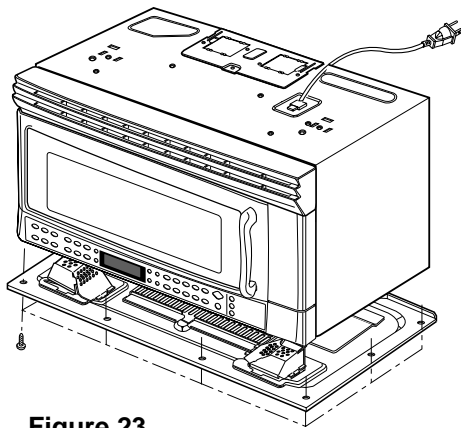
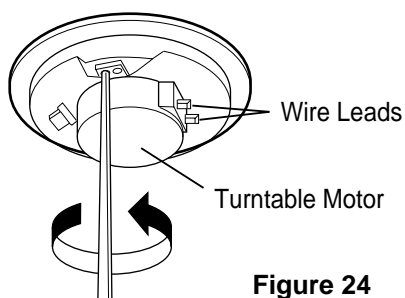

Figure 23
Figure 24
- (3) Remove the base plate by removing 8 screws securing it to the oven cavity. (Figure 23)
- (4) Disconnect the leadwire from the turntable motor terminals.
- (5) Remove the 1 screws securing the turntable motor to the oven cavity ASS'Y. (Figure 24)